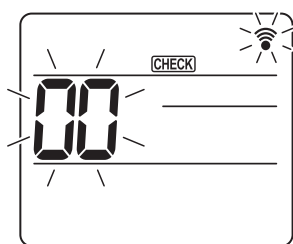
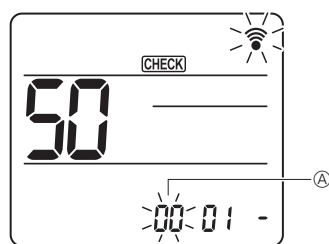
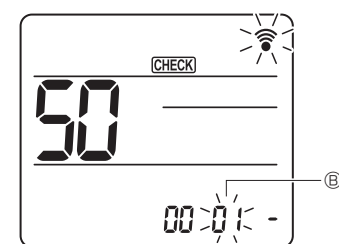
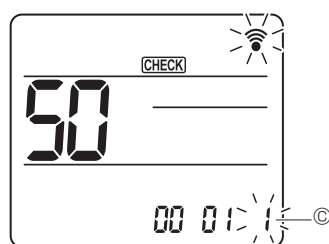

Fig. 7-16
Fig. 7-17
Fig. 7-18
Fig. 7-19
#### 7.4.2. By wireless remote controller (Fig. 7-16, Fig. 7-17, Fig. 7-18, Fig. 7-19)
[CHECK] is lighted and "00" blinks. (Fig. 7-16)
- ② Setting the unit number
Press the [DOWN] button to set unit number ①. (Fig. 7-17)
- ③ Select a mode
Press the [DOWN] button to set Mode number ②. (Fig. 7-18)
- ④ Selecting the setting number
Use the [DOWN] button to change the Setting number ③. (Fig. 7-19)